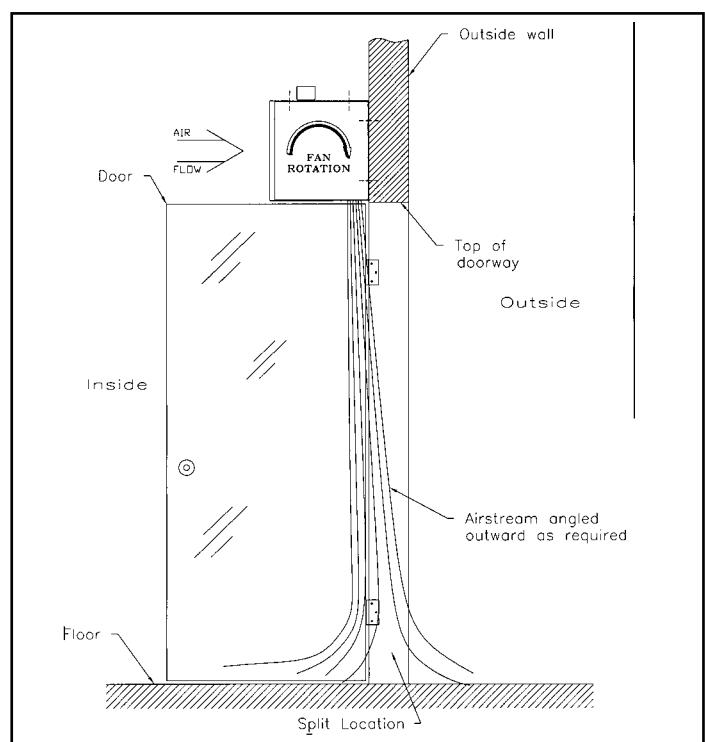

FIGURE 7 - Airstream Flow Pattern
(See Figure 7)
- B. Adjust the angle of the air stream by turning the vanes in the outlet nozzle until the split lies just outside the door threshold. **See Figure 7.**